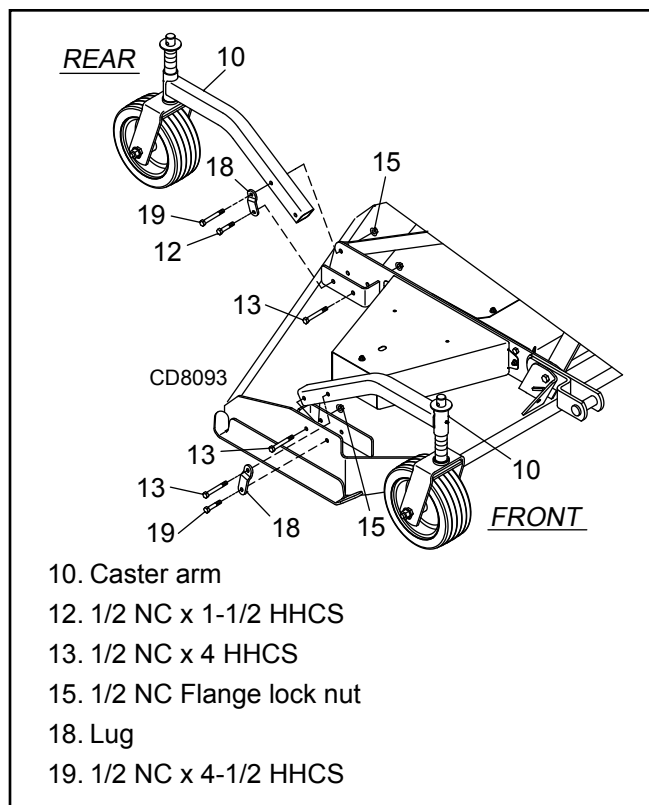

Figure 37. Caster Arm Assembly
1. Remove 1/2 NC cap screws (19 & 13) and lock nuts (15) from outer caster arms.
2. Remove outer caster arms from pockets in front corners of the deck and rotate arms, yokes, and wheels 180 degrees. Reinstall 1/2 NC cap screw (13) through outer pocket, rear hole in caster arm (10) and inside pocket wall. Bolt head should face towards the outside of the deck. Secure with 1/2 NC nut (15). Install lug (18) with 1/2 NC cap screws (19) and (13) as shown in Figure 37. Secure with 1/2 NC nuts (15). (Leave hardware loose.)